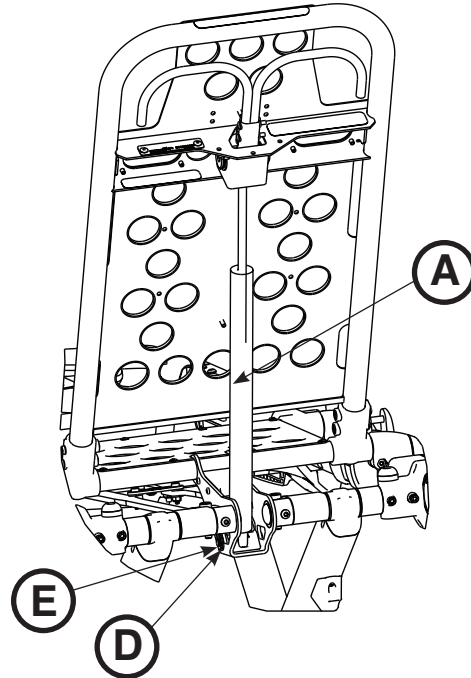
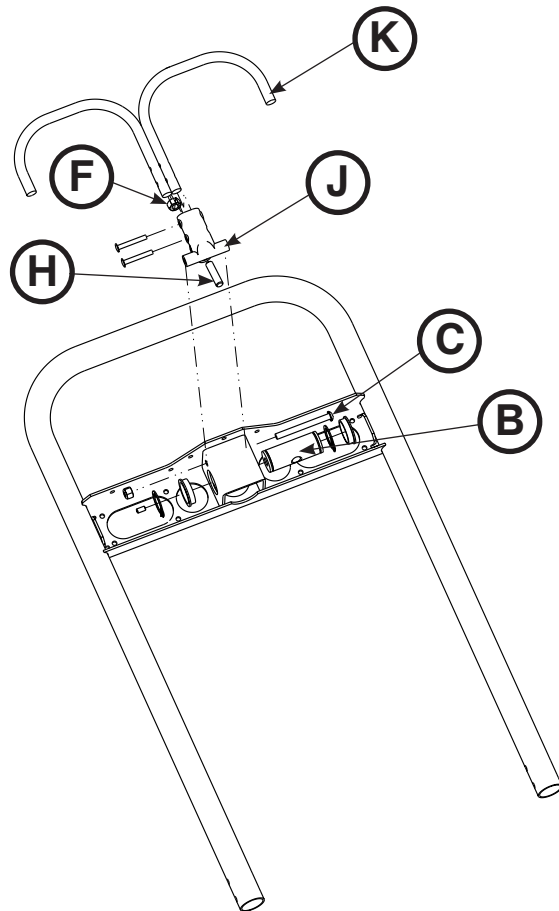

Figure 61
Figure 62
Note: Before continuing with the backrest adjustment procedure, be sure that the cylinder (A) is completely threaded into the yoke (B) so no threads are showing on the shaft of the cylinder. If threads are showing, use a 3/32" hex wrench to remove the set screw (C) in the center of the yoke. Using a small slotted screwdriver, remove the E-clip and pin (D & E) that holds the bottom of the pneumatic cylinder. Thread the cylinder shaft (A) completely into the yoke (B). Replace the E-clip and pin (D & E) and replace the set screw (C) using Loctite®. (Figure 61 and Figure 62)
2. Using a 1/2" combination wrench, loosen the hex nut (F) on the backrest pivot (J) while holding the set screw (H) fixed in the pivot (Figure 62).
3. Using a 5/32" hex wrench, turn the set screw (H) until there is no play between the backrest release handle (K) and the pneumatic cylinder release button (Figure 62).
5. Using the 1/2" combination wrench, tighten the hex nut (F) while holding the set screw fixed in the pivot (Figure 62).